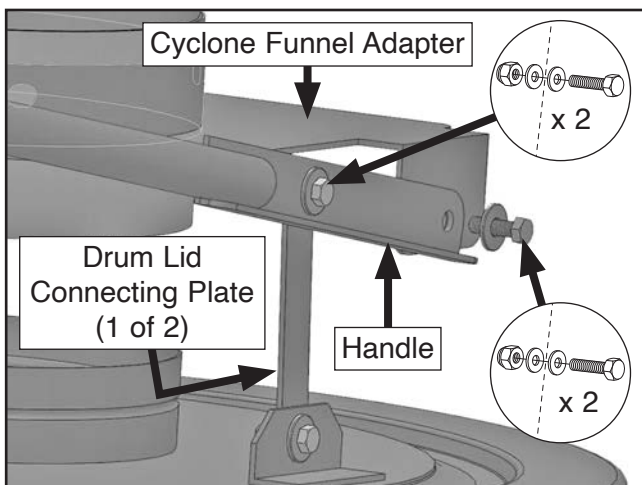

Figure 33. Collection lid handle attached to connecting plate and adapter.
34. Attach collection lid handle to cyclone funnel adapter and drum lid connecting plates using (4) $\frac{3}{8}$ "-16 x 1" hex bolts, (8) $\frac{3}{8}$ " flat washers, and (4) $\frac{3}{8}$ "-16 lock nuts (see **Figure 33**).